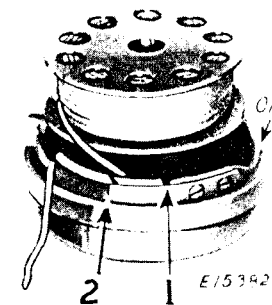
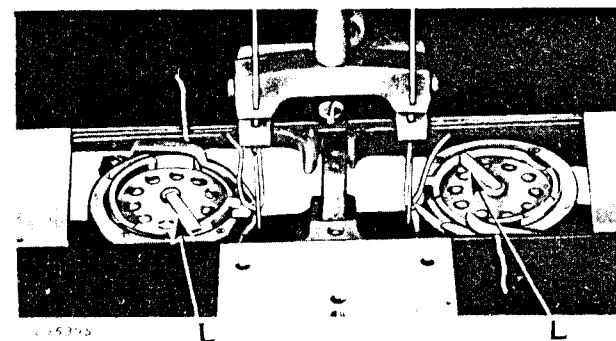

Fig. 10. Direction of Thread on Bobbin
Fig. 11. Bobbin Cases Threaded
Apply a few drops of oil four times daily to the felt pad in the side wall of each bobbin case as illustrated in Fig. 10.
Hold each bobbin between the thumb and forefinger with the thread drawing on the bottom from left to right as shown in Fig. 10 and place it on
the centre stud of the bobbin case, then push down the latch (L, Fig. 11). Draw the thread into the slot (1, Fig. 10), under the tension spring and into slot (2) as shown in Figs. 10 and 11, leaving a loose end of thread about two inches long above the slide. When closing the slide plates, leave just enough space for the threads to pass through.